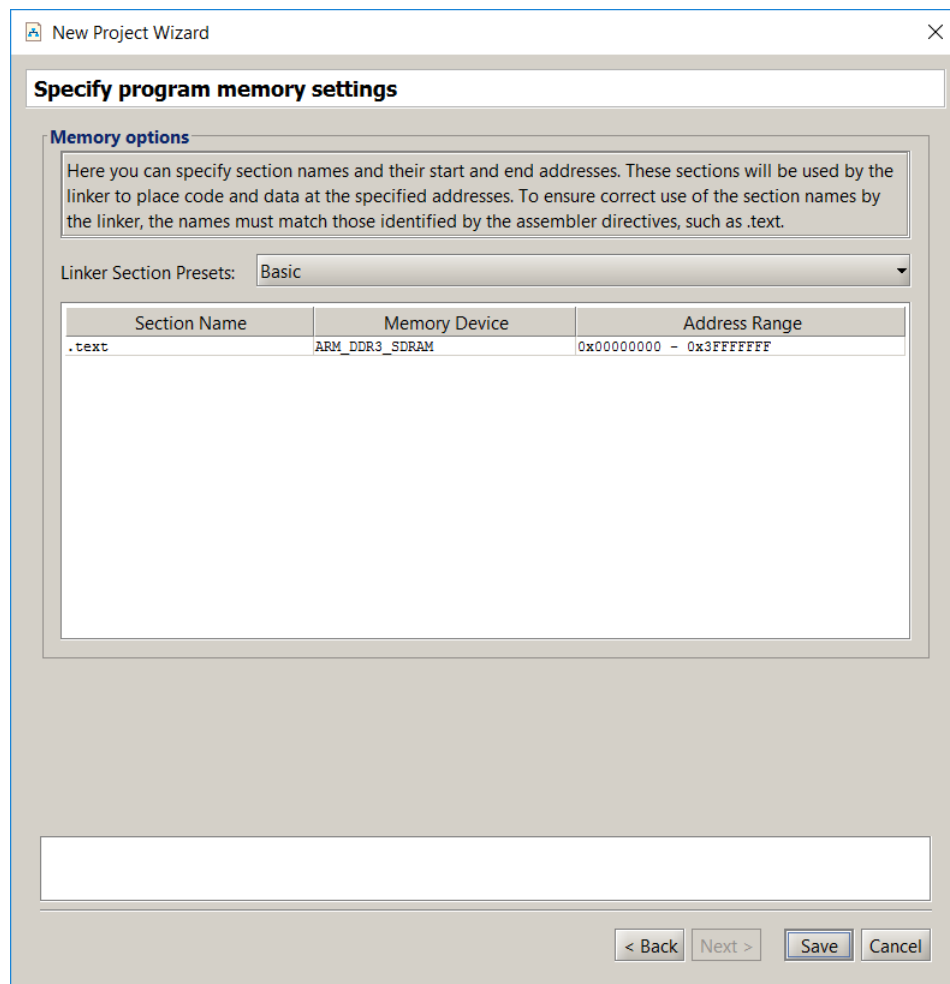

Figure 10. Specifying memory settings.
5. Click **Next** to reach the final screen for creating the new project, shown in Figure 10. This screen is used to specify memory settings that are needed for compiling and linking the program.